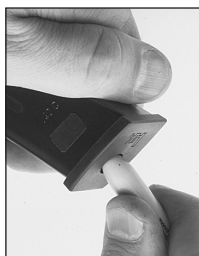

Fig. 18
1. Using a blunt pointed instrument depress the locking detent located in the floorplate and hold it there (see Figure 18).
1. Using a blunt pointed instrument depress the locking insert detent located in the floorplate and hold it there (see Figure 18).